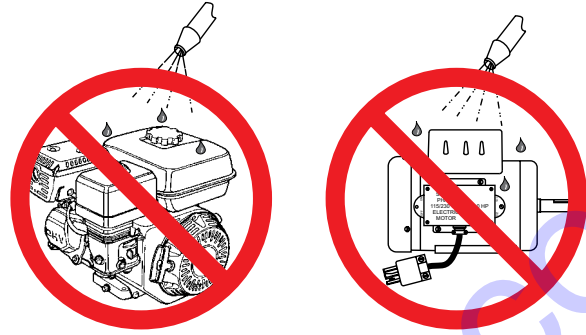

Figure 39. No Spraying of Water
6. **NEVER** pour or spray water over the engine or electric motor (Figure 39).